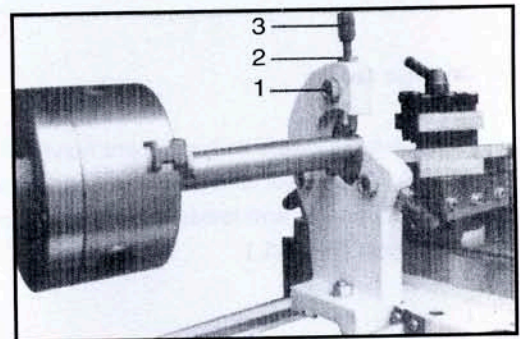

Fig.28
1. Loosen three hex nuts(1, Fig. 28)
2. Loosen knurled screw(3, Fig. 28) and open the sliding fingers(2, Fig. 28)until the steady rest can be moved with its fingers around the workpiece. secure the steady rest in position.
3. Tighten knurled screws so that fingers are snug but not tight against the workpiece. Tighten three nuts (1, Fig. 28). Lubricate the sliding points with machine oil.